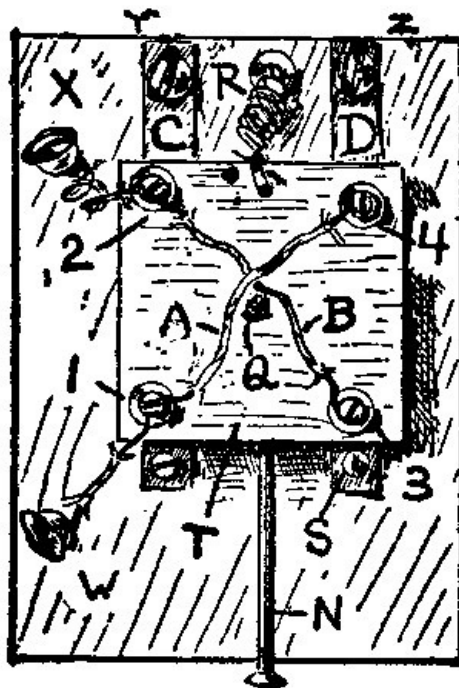

Fig. 104.
**228. Current Reverser.** Fig. 104. The wooden base is  $7 \times 5 \times \frac{7}{8}$  in. To this are fastened two brass or tin straps, *C* and *D*,  $5 \times \frac{1}{2}$  in. They are fastened at the front ends by screws, *S*, while the binding-posts, *Y* and *Z*, hold the other ends solid. *X* and *W* are two screw-eye binding-posts (App. 45). The small square piece of wood, *T*, is  $3 \times 3 \times \frac{1}{2}$  in. Through the corners of *T*, and in positions so that they will be directly over *C* and *D*, are put four screw binding-posts, 1, 2, 3, 4 (App. 41). The screws, however, pass entirely through *T*, and stick out about  $\frac{1}{4}$  in. on the underside of it. The wire, *A*, connects *W*, 1 and 4, while the wire, *B*, connects *X*, 2 and 3. *A* and *B* must not touch each other where they cross on the top of *T*. *N* is a wire nail that serves as a handle. If we were to place *T*, holding the four corner screws, upon the straps, *C* and *D*, it is evident that all the screws would touch the straps, if they were properly adjusted. We must fix things so that two only can touch the straps at a time. Put a screw, *Q*, through the center of *T*, from the bottom, so that it will stick out of the bottom more than the screws, 1, 2, etc. The screws, 2 and 4, will be lifted from *C* and *D* when the handle, *N*, is pressed down. By raising *N*, the top, *T*, can be made to rock up and down upon *Q* as a pivot. By lifting *N* far enough, 2 and 4 will be pressed against *C* and *D*, while 1 and 3 will be raised. A spring, *R*, is shown joined to *T* and to the base. This will hold the screws, 2 and 4, down upon *C* and *D*, unless *N* is pressed down.